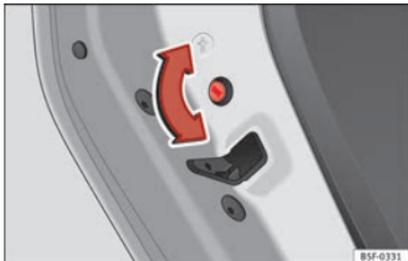

Fig. 95 Childproof lock on the left hand side door.
- With the door open, rotate the groove in the door using the ignition key, clockwise for the left hand side doors » Fig. 95 and anti-clockwise for the right hand side doors.
- With the door open, rotate the groove in the door using the ignition key, anti-clockwise for the left hand side doors » Fig. 95 and clockwise for the right hand side doors.